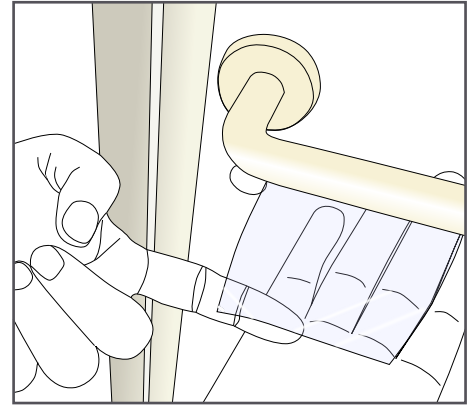

Figure 16
- › Position the film starting on the underside of the handle. Wearing gloves, apply the film by hand to the rear side of the handle. (FIG. 16)